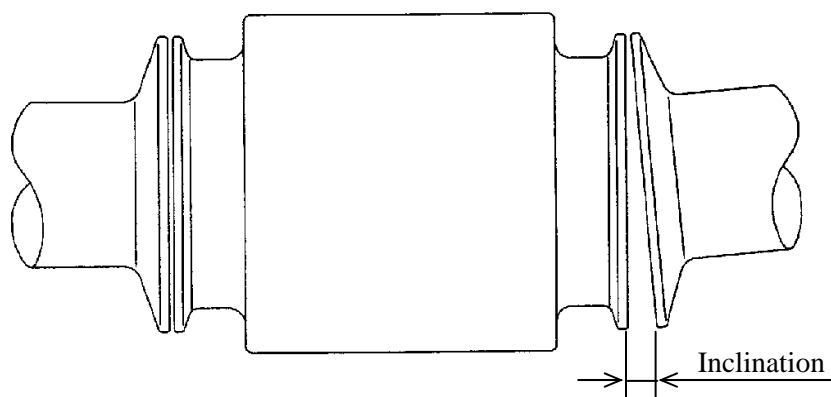

Figure 4.1 Pipe leaning
- (1) Before installing pipes, check for any leaning misplacement or eccentricity as illustrated in Figure 4.1. An attempt to unreasonably connect pipes that are inclined may lead to a detector breakdown or fluid leakage. Connecting pipes in an eccentric state may also cause wears and tear of linings and grounding rings, as well as measurement errors.
To mount the LF494, see Figure 4.1 and follow the procedure below: